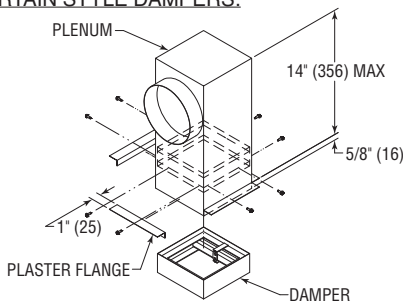

FIGURE 2A
6. For insulated plenums (Type C), insulation shall be semi rigid Type R-6, 1 1/2" (28) or Type R-8, 2" (51) fiberglass duct liner, minimum density 1.5 pcf. Insulation is self-supporting within plenum box. All internal surfaces must be lined with insulation, excluding outlet collar. The bottom edge of the insulation is trapped by a lip that is formed on the plenum box that extends a min. of 1" (25) from the inner edge of the opening to the outer edge of the box and extends a min. of 1/2" (13) up into the opening. See detail above.
8. For curtain style ceiling dampers, a 1" x 1" x 22 ga. (25 x 25 x 0.85) min. plaster flange is secured to the plenum box using spot welds, self-piercing steel rivets, or sheet metal screws, spaced max. 6" (152) max. OC, 2" (51) from each corner (See Figure 2A or 2B).
10. The 0457(D) Series Ceiling Radiation Damper is classified for use in specific wood truss ceiling assemblies. See UL Fire Resistance Directory for Floor/Ceiling design No.'s L550, L562, L574, L579, L585, M503 and Roof/Ceiling design No.'s P531, P538, P545, P547, P552.
- (A) Steel Register box (boot), by others, Min. 28 ga. (0.474) insulated.
- (B) Steel frame Grille/Register, 26 ga. (0.55) minimum, see note 6
- (C) 3/4" x 3/4" x 16 ga. (19 x 19 x 1.61) or 1 1/2" x 1 1/2" x 22 ga (38 x 38 x 0.85) Support Angle (2 sides), see notes 2 & 3
- (D) Flex Duct UL Classified Air Duct (Class 0 or 1)
- (E) Wood Truss (refer to specific UL Design No.)
- (F) 5/8" (16) Gypsum Wallboard (refer to specific UL Design No.)
- (G) RC Channel
- (H) Plaster Flange